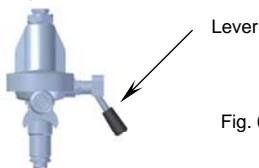

Fig. 6
- b) Insert the filter basket and fill it with the right amount of coffee (it will depend on filter's basket size). Use fresh ground coffee. Use the right portafilter, -see Fig. 6-.